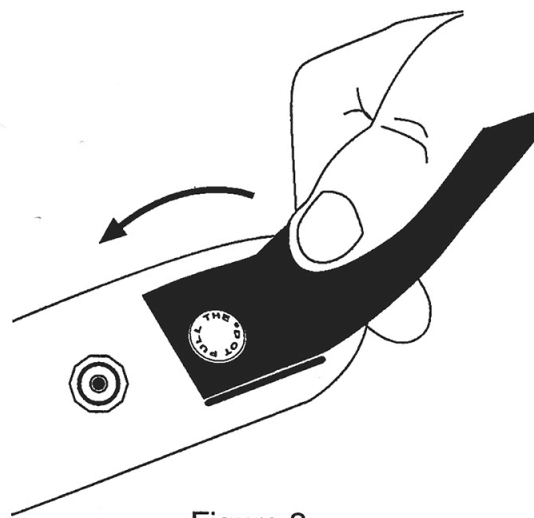

Figure 3.
- Reverse the straps by releasing the Pull-the-Dot snaps. The snaps may be released by lifting on the side of the snap with the small "dot" on the cap. (See Figure 3) This step will take very little force if done properly. Remove each strap and reassemble them by placing the buckles anterior.